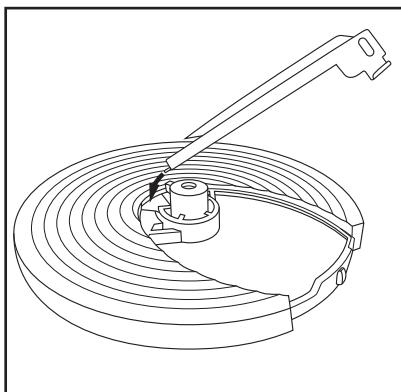
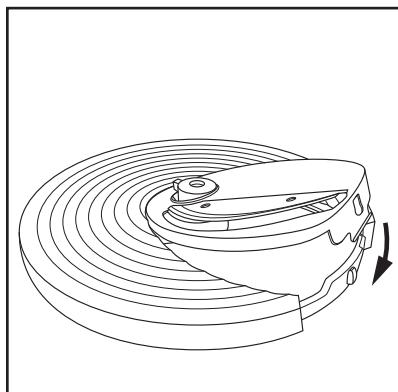

Fig. 1
Fig. 2
- 1) Fit the drive shaft ⑯ to the shaft holder.
- 2) Place the mixing bowl ⑰ onto the motor block ⑯ so that the arrow ▼ is pointing at the symbol  and rotate the mixing bowl ⑰ until the arrow ▼ is pointing at the symbol . The mixing bowl ⑰ is now fixed.
- 3) Select a suitable disk ⑩ ⑪ ⑫ (see chapter "Working with the food processor") and insert it into the disk adapter ⑯:
- if a different disk is still installed: Press the metal tab of the disk outwards so that it slides over the locking mechanism on the disk adapter ⑯. You can now remove the disk.
- insert the new disk with the narrower side first into the recess in the disk adapter ⑯ (Fig. 1) and push the disk firmly downwards so that it engages and is firmly seated (Fig. 2).